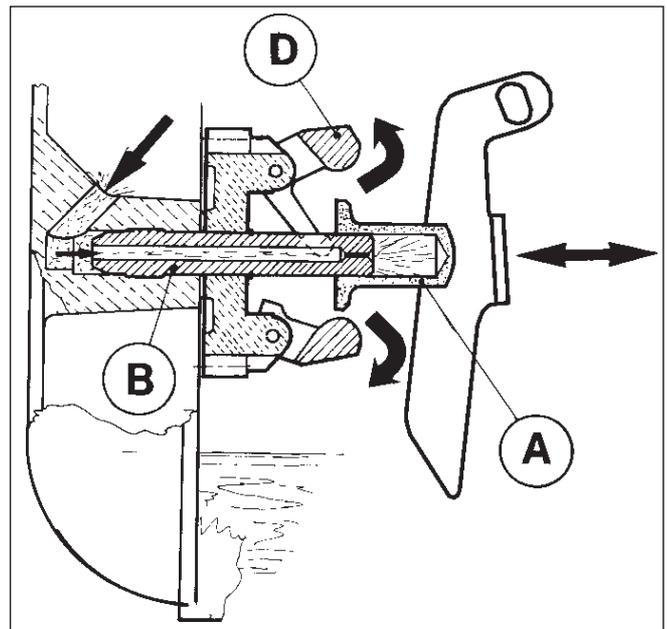

Fig. 9
### c) OLEOMATIC GOVERNOR FOR HORIZONTAL ENGINES (FIG 9)
The governor spool (A - Fig. 9) is pushed by the centrifugal masses (D) and slides along the spindle (B) which has holes and allows oil to be drawn inside the spool. This gives a low pressure oil dampening effect which eliminates any slight governor fluctuation. This type of governor is used mainly in generator applications.
Besides the system shown in fig. 9, there is a simpler version with perforated spool.